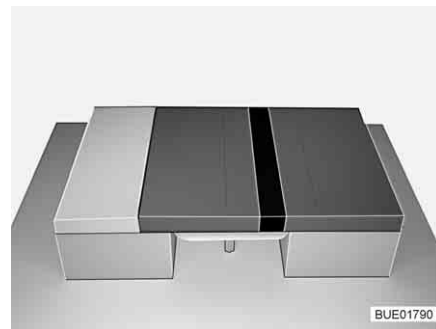

Fig. 92 After conversion
- Insert the additional cushion between the seat cushions (see Fig. 92).